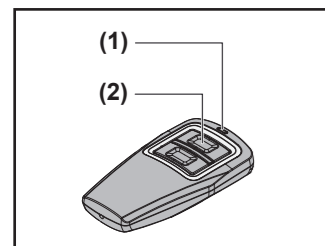
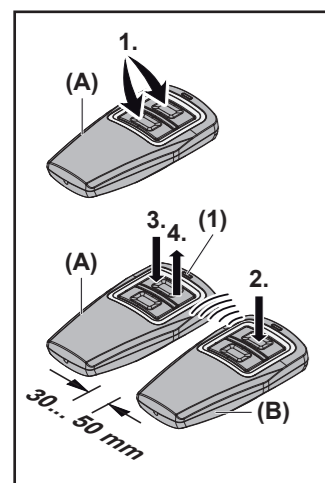

Fig. 1
Fig. 3
3 Device description (fig. 1)
5.2 Using the hand transmitter (fig. 1)
- Press button (2) on the hand transmitter. The function assigned to the button (e.g. open / close door) will be carried out.
5.3 Copying a button function (fig. 3)